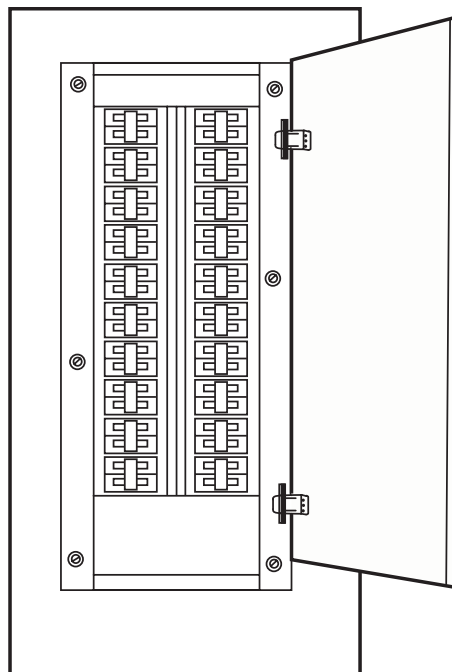

Figure 9. 120V Distribution Panel No. 4
- i. 120V distribution panel No. 4 (figure 9), located in the engine room on the aft bulkhead of the EOS.